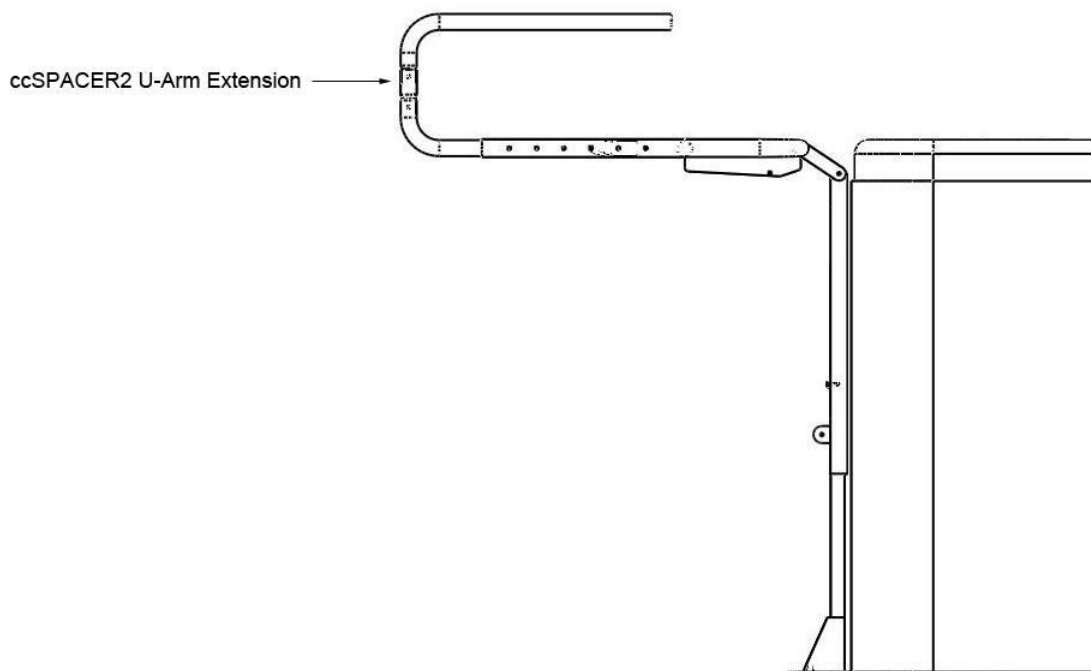

Figure 9
9. Swing the U-Arms up so that they are parallel to the ground. Raise the Main Unit so that the bottom tube of the U-Arms is level with the top of the spa without the cover. See Fig 9.